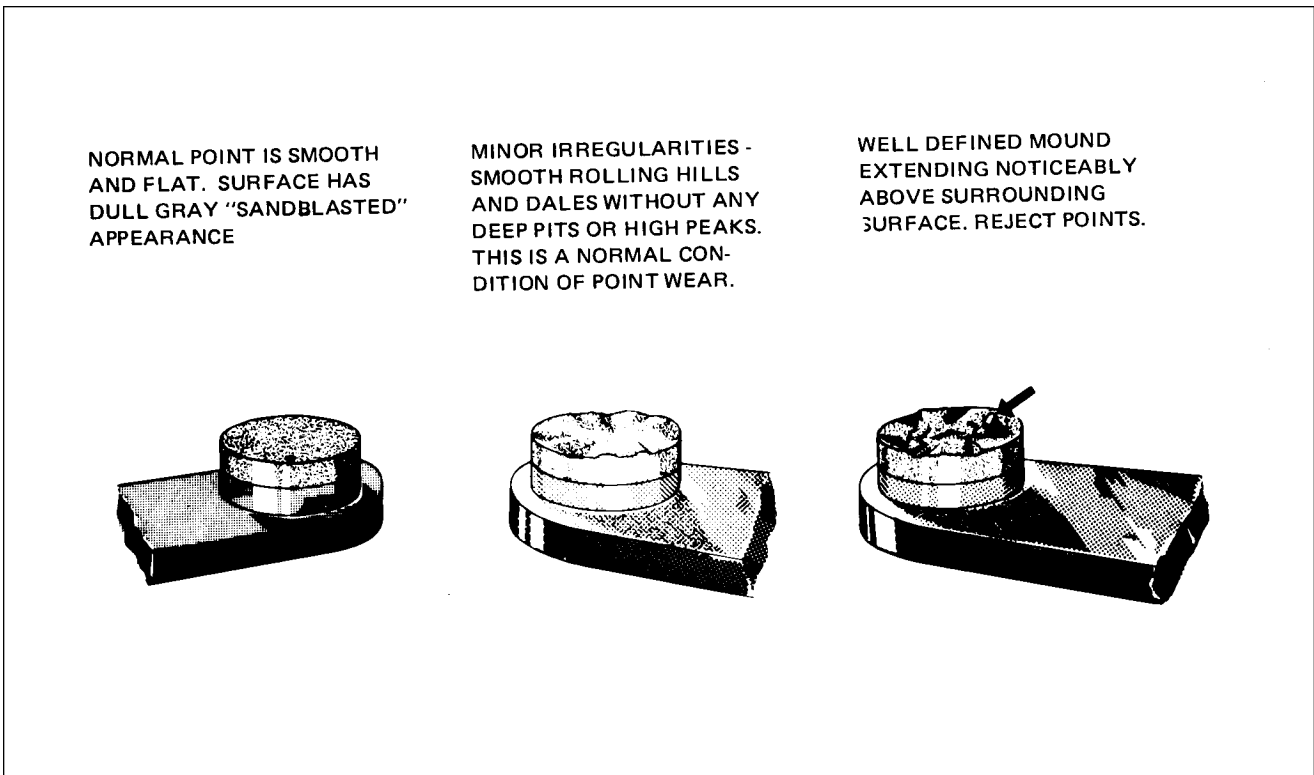

Figure 74-3. Contact Points
7. Remove the breaker cover and harness securing screws and nuts and separate cover from magneto housing. Check contact assemblies to see that cam follower is securely riveted to its spring. Examine the contact points for excessive wear or burning. Figure 74-3 shows how the average contact point will look when surfaces are separated for inspection. Desired contact surfaces have a dull gray, sandblasted (almost rough) or frosted appearance over the area where electrical contact is made. This means that points are worn in and mated to each other, thereby providing the best possible electrical contact and highest efficiency of performance.
8. Minor irregularities or roughness of point surfaces are not harmful (refer to Figure 74-3, center); neither are small pits or mounds, if not too pronounced. If there is a possibility of pit becoming deep enough to penetrate pad, Figure 74-3, right, reject contact assembly.